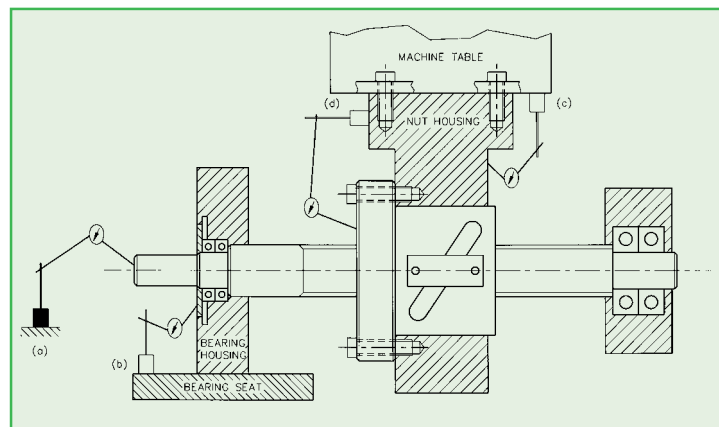

Fig. A-4 Locating the Cause of an Abnormal Backlash.
The ball-nut-mounted housing or the bearing-mounted housing may deflect under components' weight or machining load if it is not rigid enough. The test illustrated in Fig A-4 (d) can be used to check the rigidity of the ball-nut-mounted housing. Similar test can be used to check the rigidity of the bearing-mounted housing.
1. Glue a gauge ball in the center hole at one end of the screw spindle. Use the flat plate of a dial indicator to check the axial movement of this gauge ball in axial direction while rotating the screw spindle (Fig A-4(a)). The movement should not exceed 0.003mm (0.00012 in), if the bearing hub, the ball nut, and the ball nut housing are all installed properly.
2. Use a dial indicator to check the relative movement between the bearing housing and the bearing seat while rotating the ballscrew (Fig A-4(b)). Any dial indicator reading other than zero indicates that either the bearing hub is not rigid enough or it is not installed properly.
3. Check the relative movement between the machine table and the ball nut housing (Fig A-4(c)).
4. Check the relative movement between the ball nut housing and the ball nut flange (Fig A-4(d)).